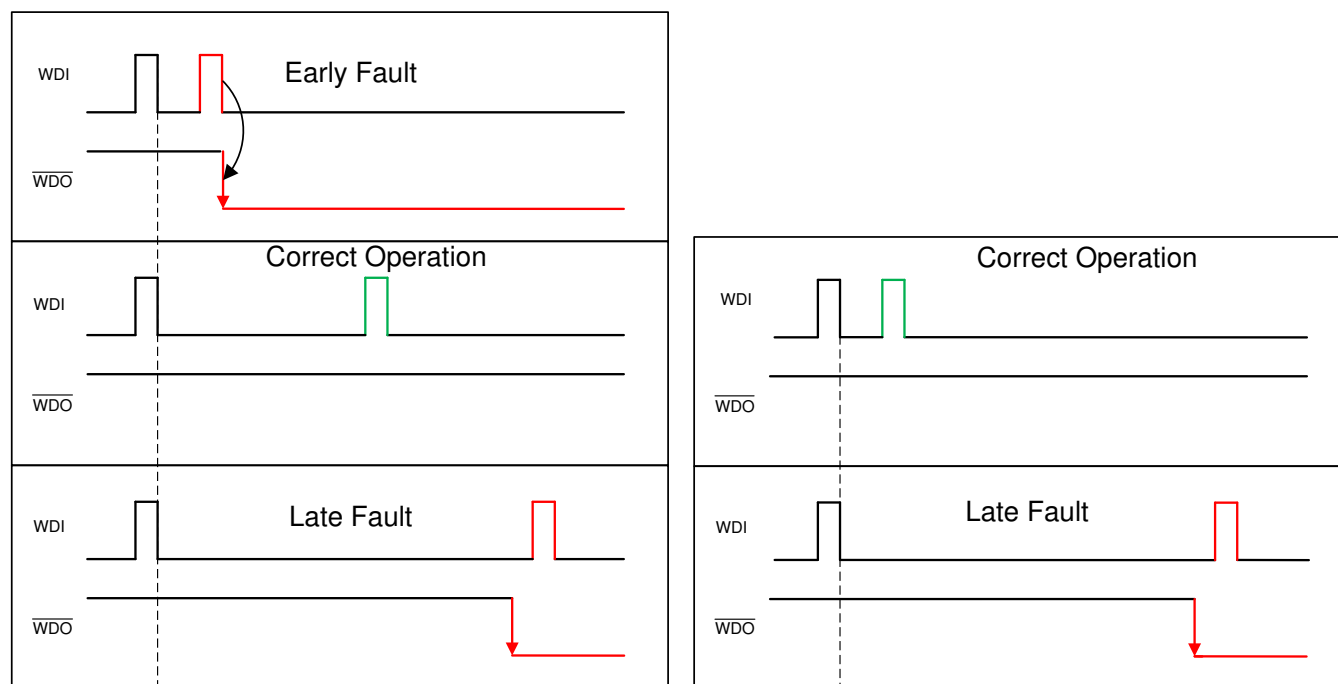

Figure 11. Window (Left) vs Standard (Right) Watchdog Timers
The difference between "standard" and "window" watchdogs is the lower boundary specification. In standard watchdogs, a pulse must arrive before the watchdog timeout otherwise a fault occurs. Looking at the right of Figure 11, notice that the standard watchdog only alerts the system on late faults. In window watchdogs, a pulse must arrive before the watchdog timeout and after the lower boundary window otherwise a fault occurs. Taking a look at the left of Figure 11, notice how the window watchdog alerts the system on *both* early and late faults.
• renamed <a href="#">Figure 11</a> title to reflect window watchdog on left, standard watchdog on right .....	<a href="#">9</a>